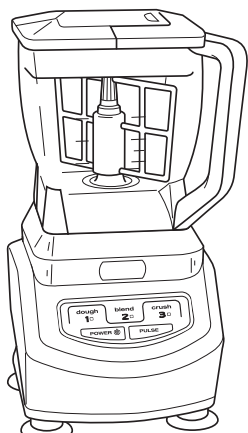

Fig. 12
- 1 Place the motor base on a clean, dry, level surface such as a counter or table top. (Fig. 12)
- 4 Add the ingredients and secure the bowl lid onto the bowl. (Fig. 12)